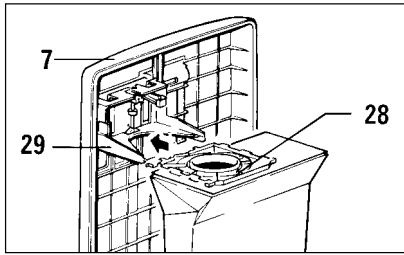

Figure 7
Changing the Dust Bag - Figure 7
2. Bag not inserted properly	2. Reinsert bag with cover release flap (5) up, until firmly latched in bag holder (see pg. 8, figure 7).